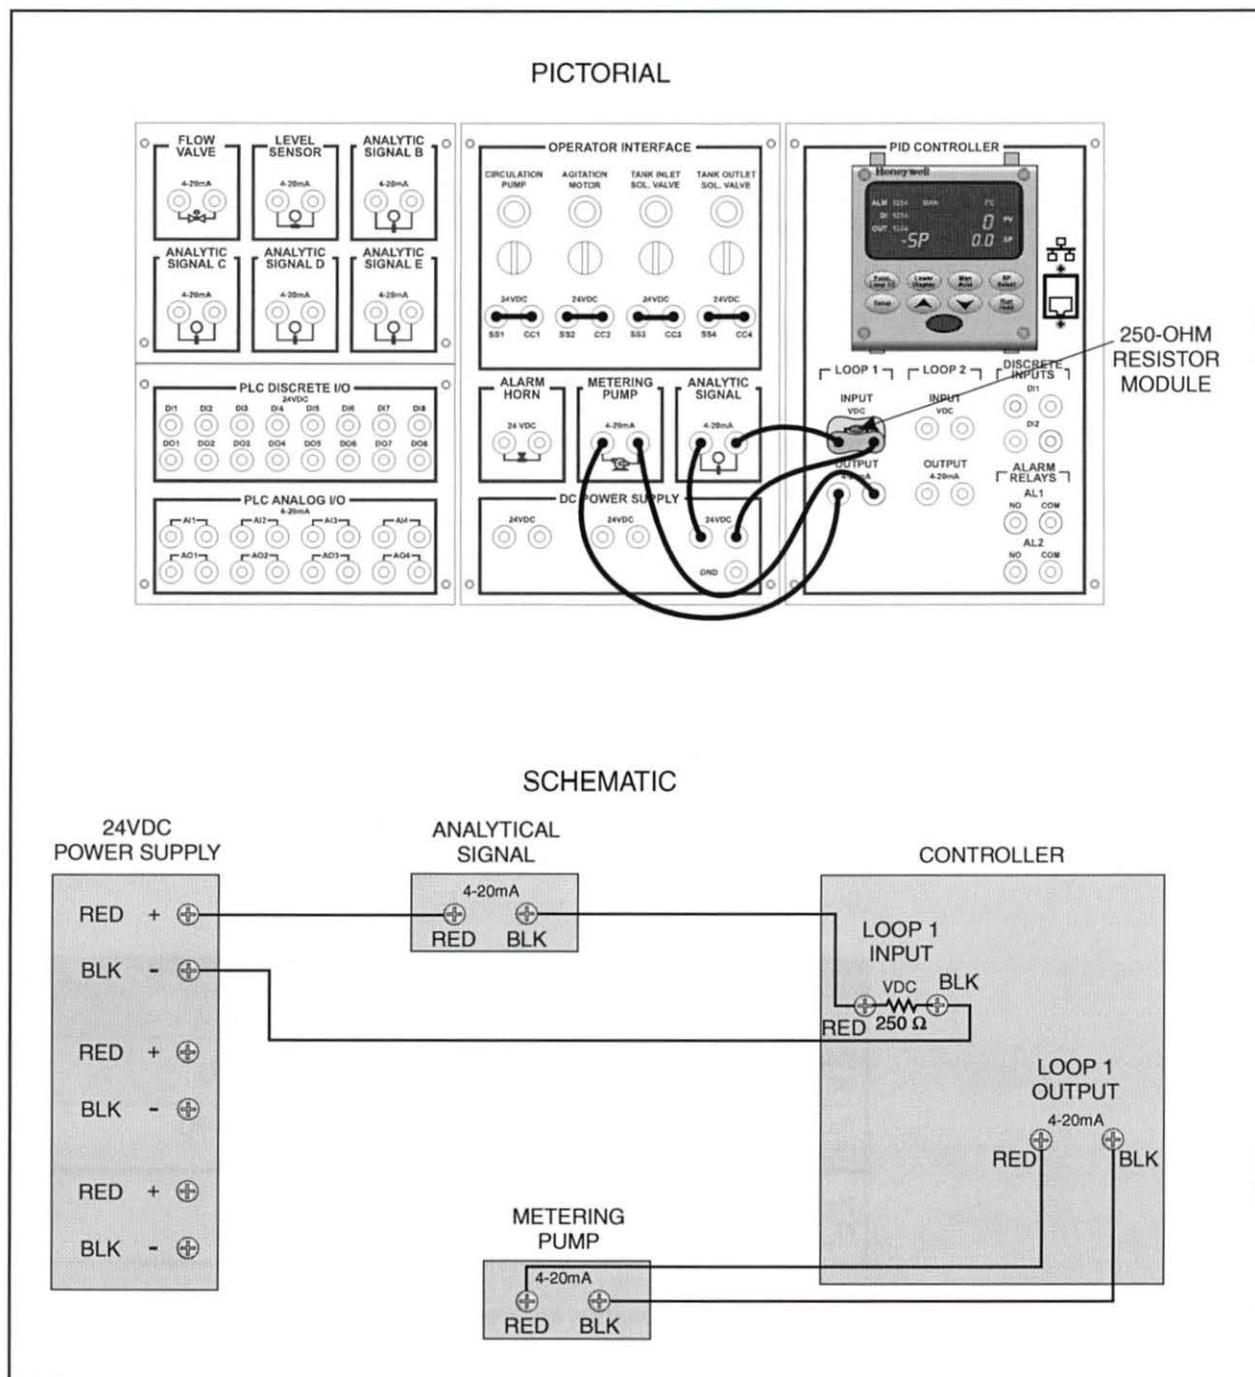

Figure 37. Continuous pH Control Circuit
- 2. Connect the circuit shown in figure 37.